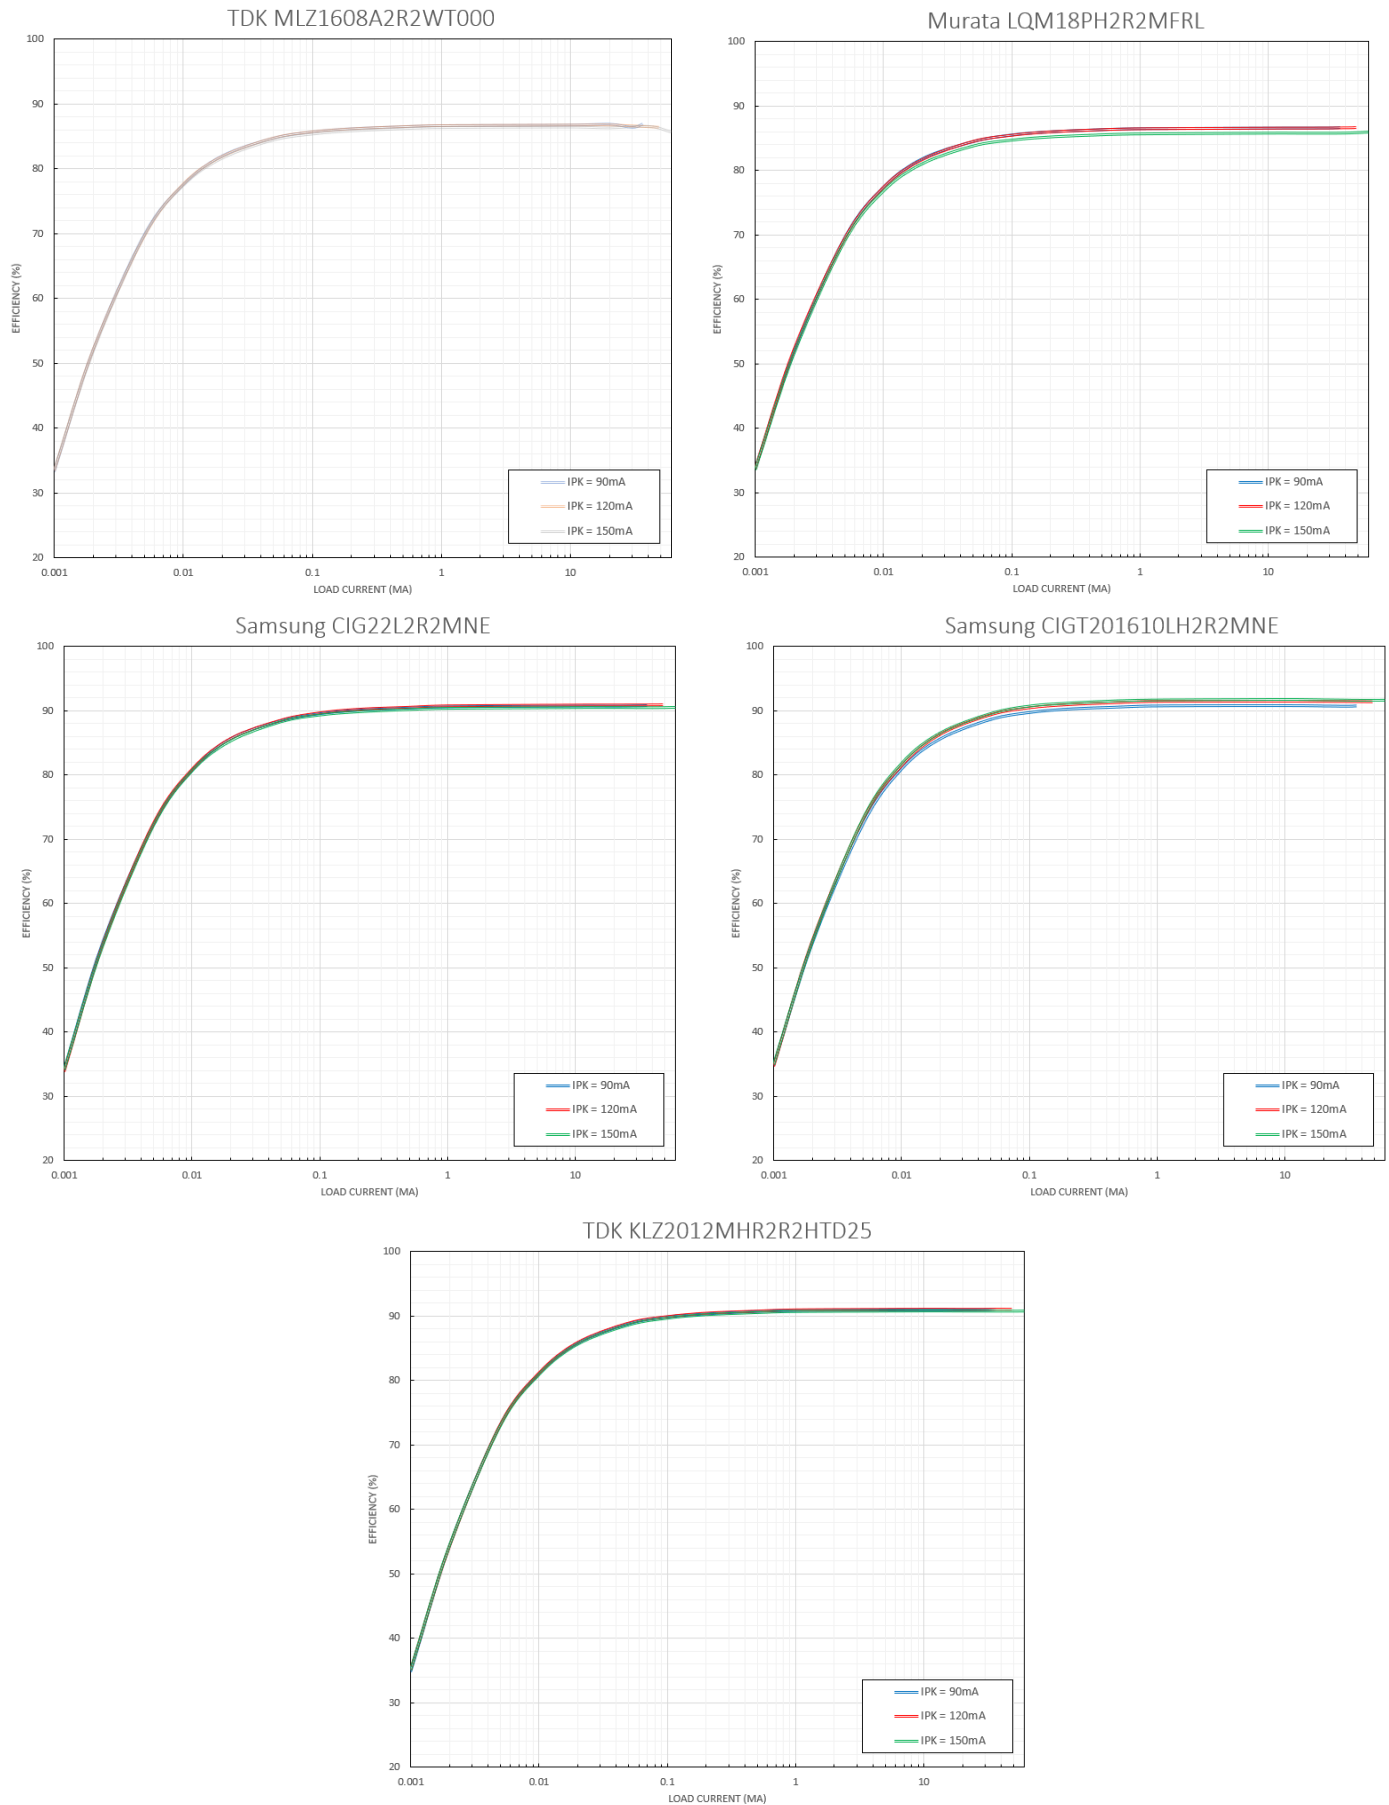

Figure 7.1. Inductor Efficiency Curves, Buck DC-DC Mode, $L_{DCDC} = 2.2 \mu H$, $V_{REGVDD} = 3.3 V$, $V_{DCDC} = 1.8 V$
- Updated [Figure 7.1 Inductor Efficiency Curves, Buck DC-DC Mode, \$L_{DCDC} = 2.2 \mu\text{H}\$, \$V_{REGVDD} = 3.3 \text{ V}\$, \$V_{DCDC} = 1.8 \text{ V}\$ on page 28](#)